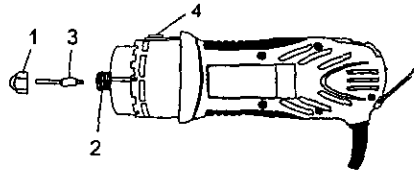

Fig. 23
1. Remove collet nut (1) from the motor shaft (2) and remove existing collet (see Fig 23).
2. Insert short end of flex shaft adaptor (3) into motor shaft.